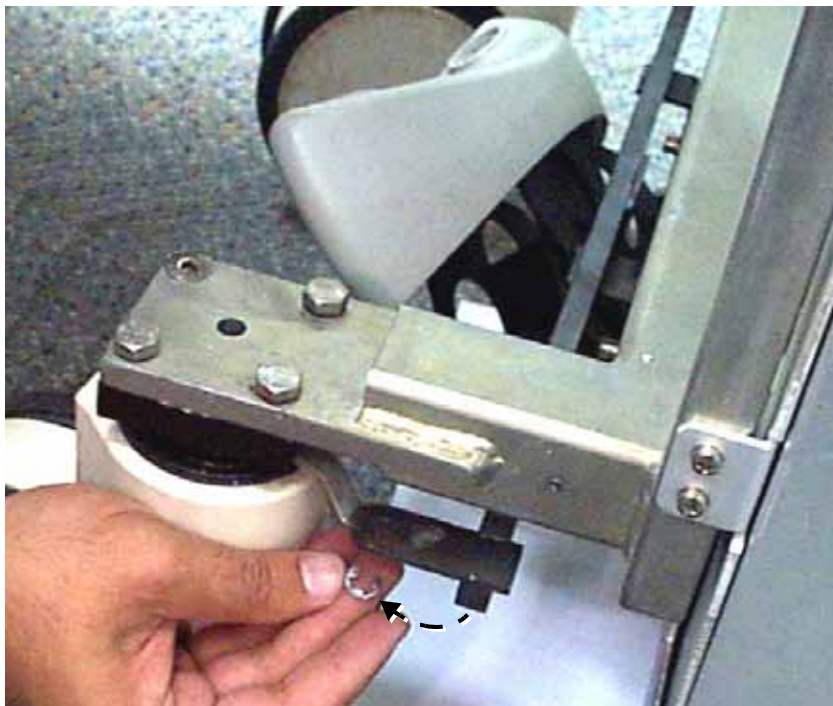

Figure 8-102 Releasing the Spring Washer from the End of the Transverse Arm
- 4.) Release the locking spring washer from the underside of each end of the transverse arm, as shown in Figure 8-102 below.
- 4.) Lift the transverse arm *upwards* and attach a new locking spring washer (supplied) to the underside of each end of the transverse arm. Refer to step 4 on page 8-116 and Figure 8-102 on page 8-116.